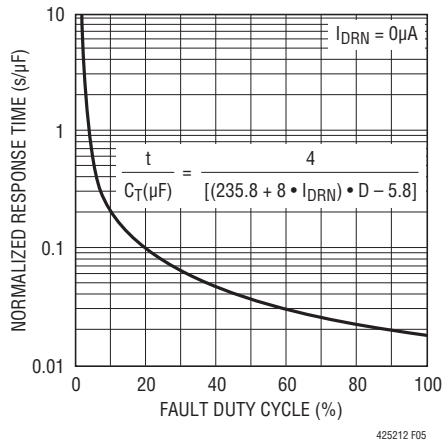

Figure 5. Circuit-Breaker Response Time
2.5% or more will eventually trip the circuit breaker and shut down the LTC4252. Figure 5 shows the circuit breaker response time in seconds normalized to  $1\mu\text{F}$  for  $I_{\text{DRN}} = 0\mu\text{A}$ . The asymmetric charging and discharging of  $C_T$  is a fair gauge of MOSFET heating.